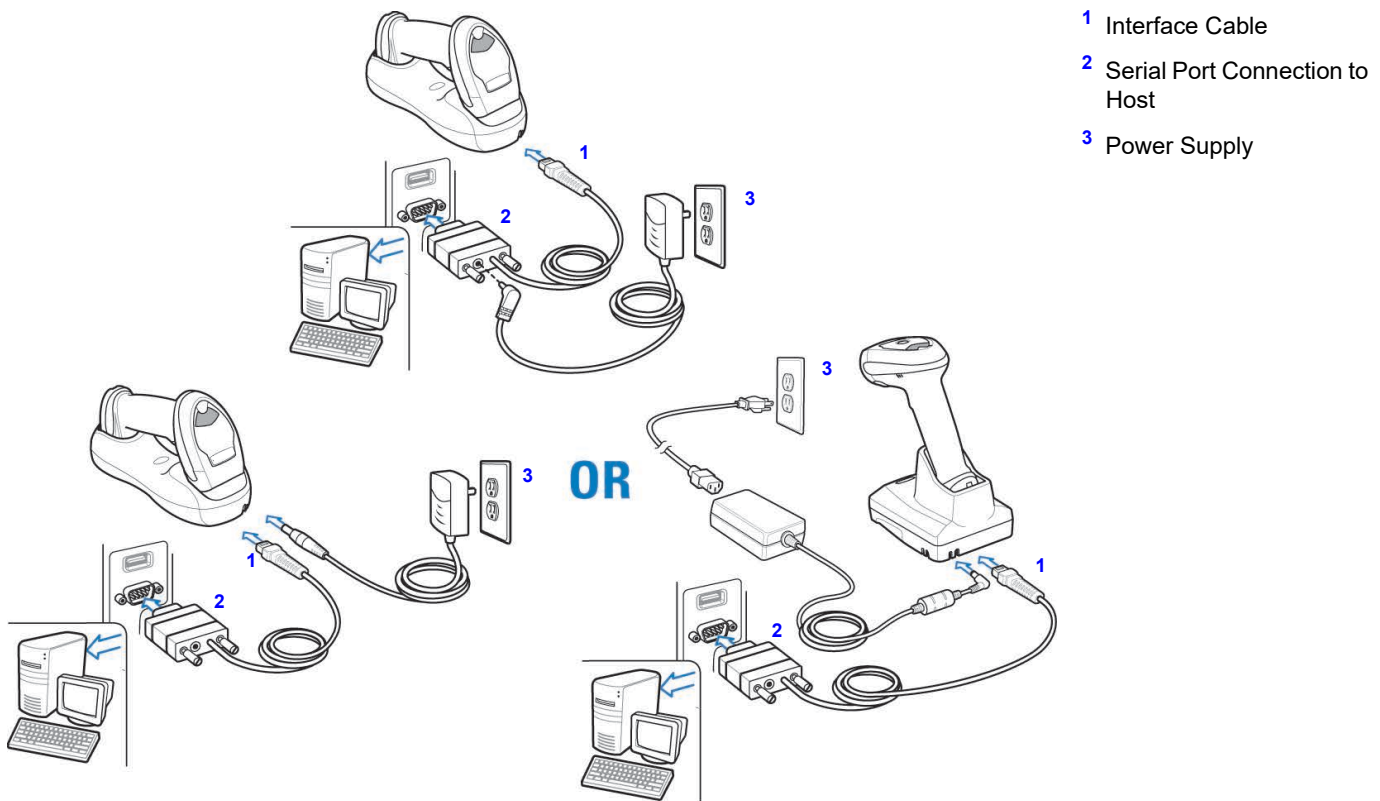

Figure 7-1 RS-232 Direct Connection
- ✓ **NOTE** Interface cables vary depending on configuration. The connectors illustrated in Figure 7-1 are examples only. The connectors may be different than those illustrated, but the steps to connect the cradle remain the same.